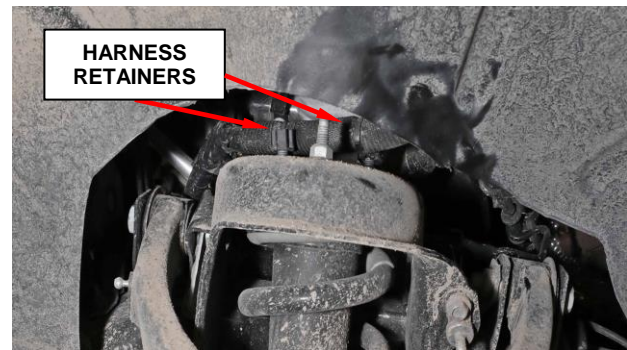

Figure 1 – Wiring Harness on Shocks
4. Remove the wiring harness retainers from the top of the shock (Figure 1).
11. Seat the wiring harness retainers to the shock mount studs (Figure 1).